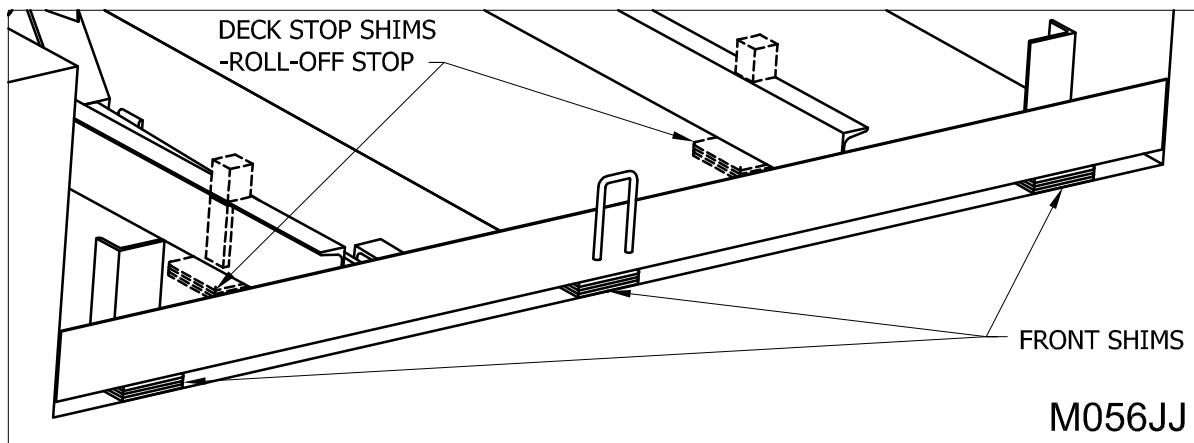

Figure 31: Front Angle & Deck Stop Shims
1. ___ Front angle shims. (See "Figure 31: Front Angle & Deck Stop Shims" on page 28)
2. ___ Deck stop shims. (See "Figure 31: Front Angle & Deck Stop Shims" on page 28)